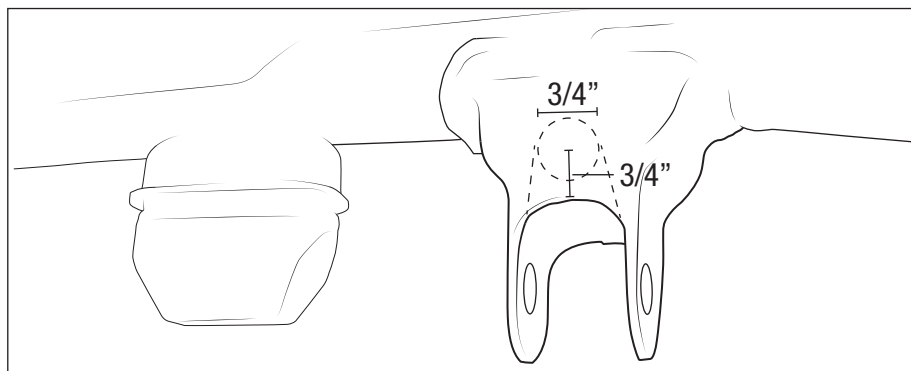

Figure 20
- a. **POWER WAGON ONLY** Other models skip to step 6b - Modify the track bar bracket as shown (fig. 20). Measure 3/4" up to mark the center, then drill a 3/4" hole. Remove remaining material.